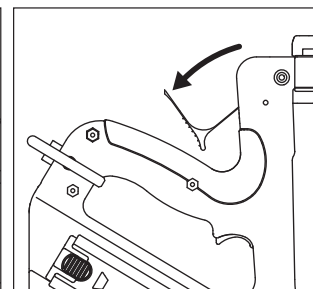

Figure 10
1. Pull fuel cell door upward and tilt door outward to open. The fuel cell door will swing toward the tool handle (see Figure 10).